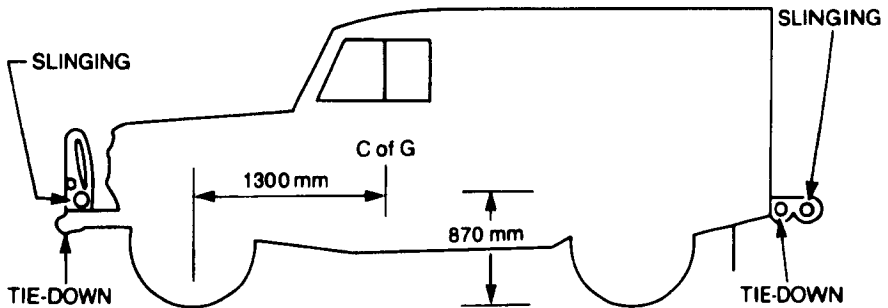

Figure 1-3 Slinging and tie-down points
35. Slinging and tie-down points are illustrated in Fig. 1-3.